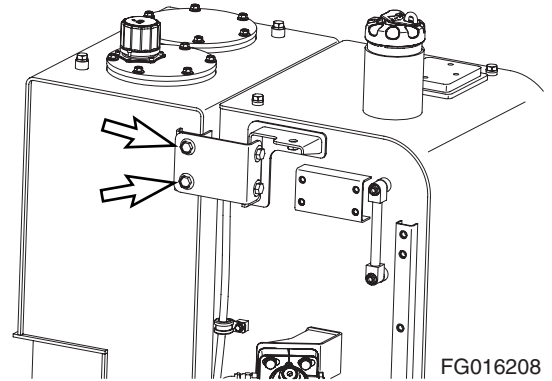

Figure 22
11. Install bracket tied with oil tank (Figure 22).